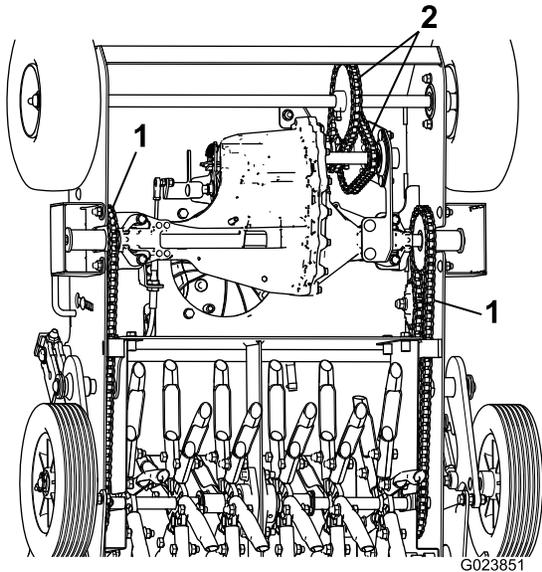

Figure 28
3. Rotate the front wheels and apply oil or chain lubricant onto the chain links of the lower spans of the front drive chains (Figure 28).
4. Check the front drive chains (Figure 28) for wear, damage, and proper tension.
5. Rotate tine shafts and apply oil or chain lubricant onto all the links of the lower spans of the tine-drive chains (Figure 28).